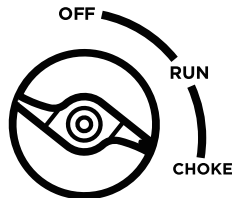

Figure 7: Turn Engine/Fuel Switch to CHOKE Position
3. Turn the engine/fuel control switch to the **CHOKE** position (see Figure 7).